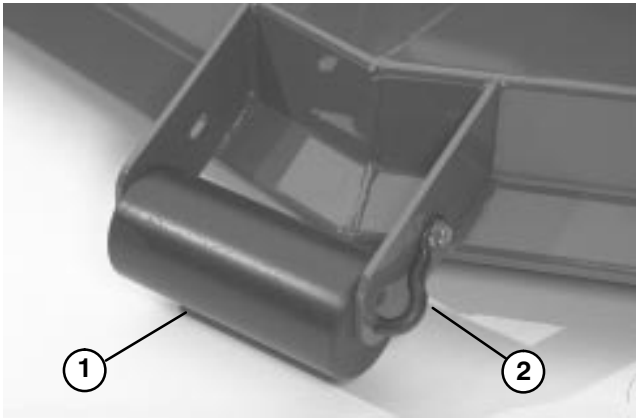

Figure 15
To adjust front roller (Fig. 15):
1. Remove capscrew and nut securing roller shaft to cutting unit bracket (Fig. 15).